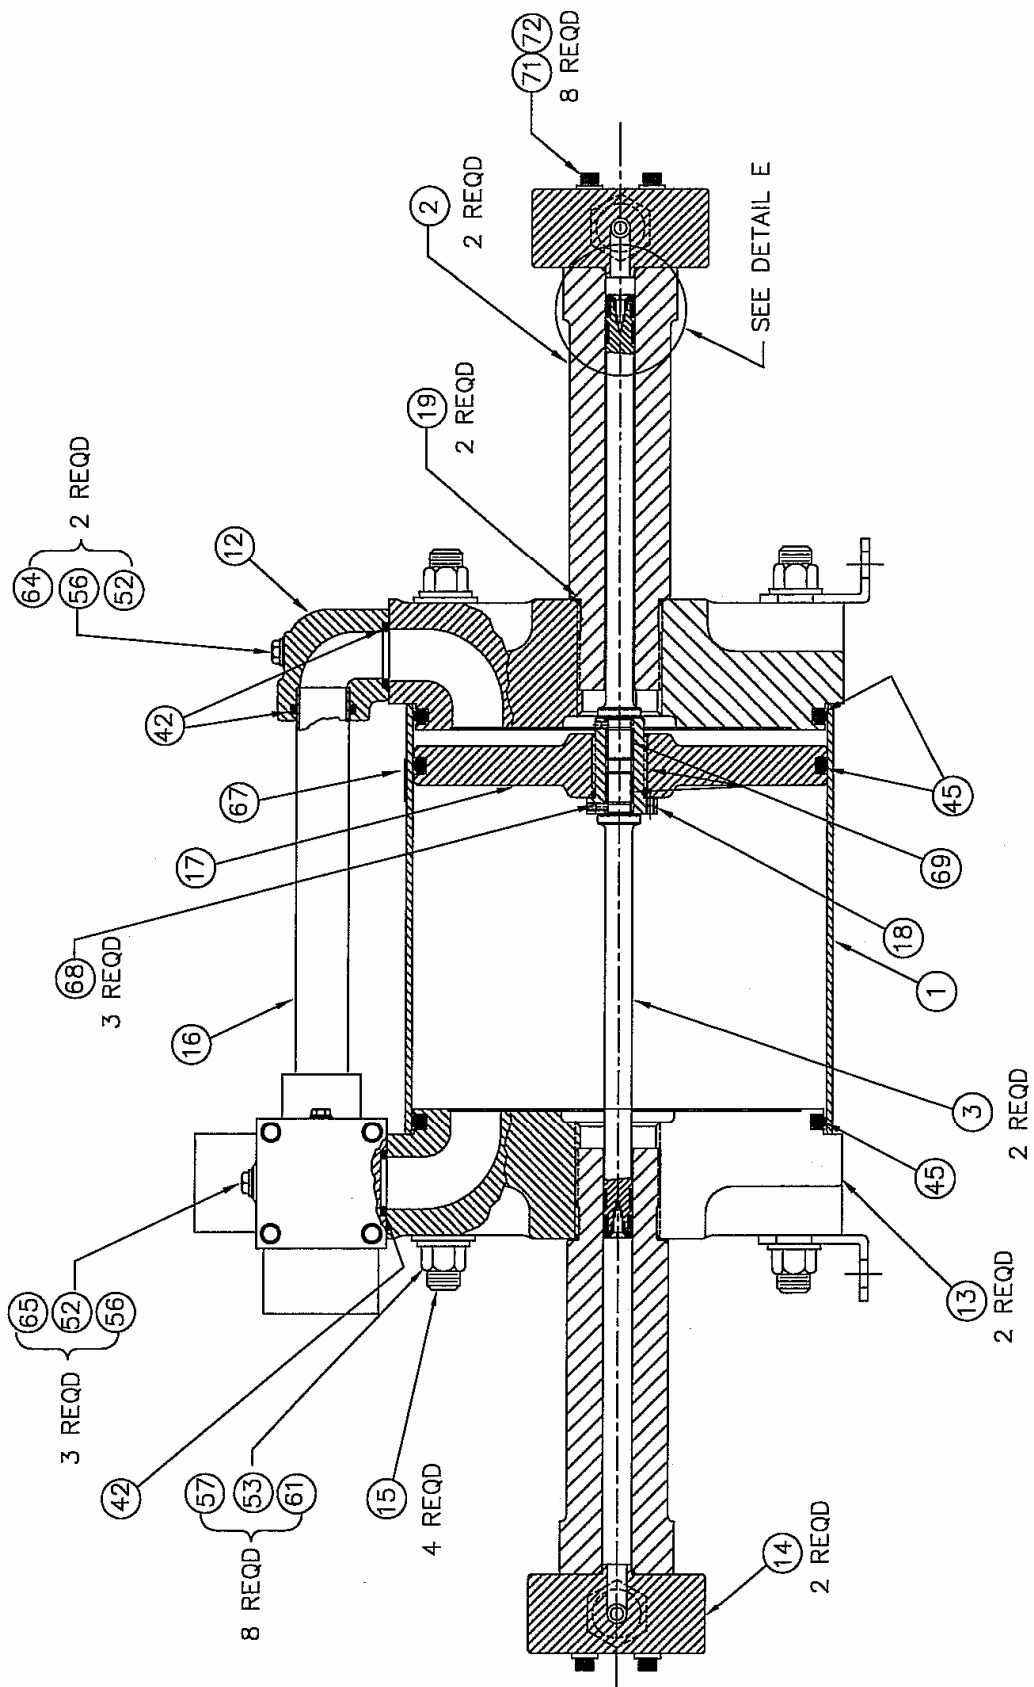

FIGURE 4 - SECTION A-A
- 9.4 Air shuttle installation. See Figure 4.